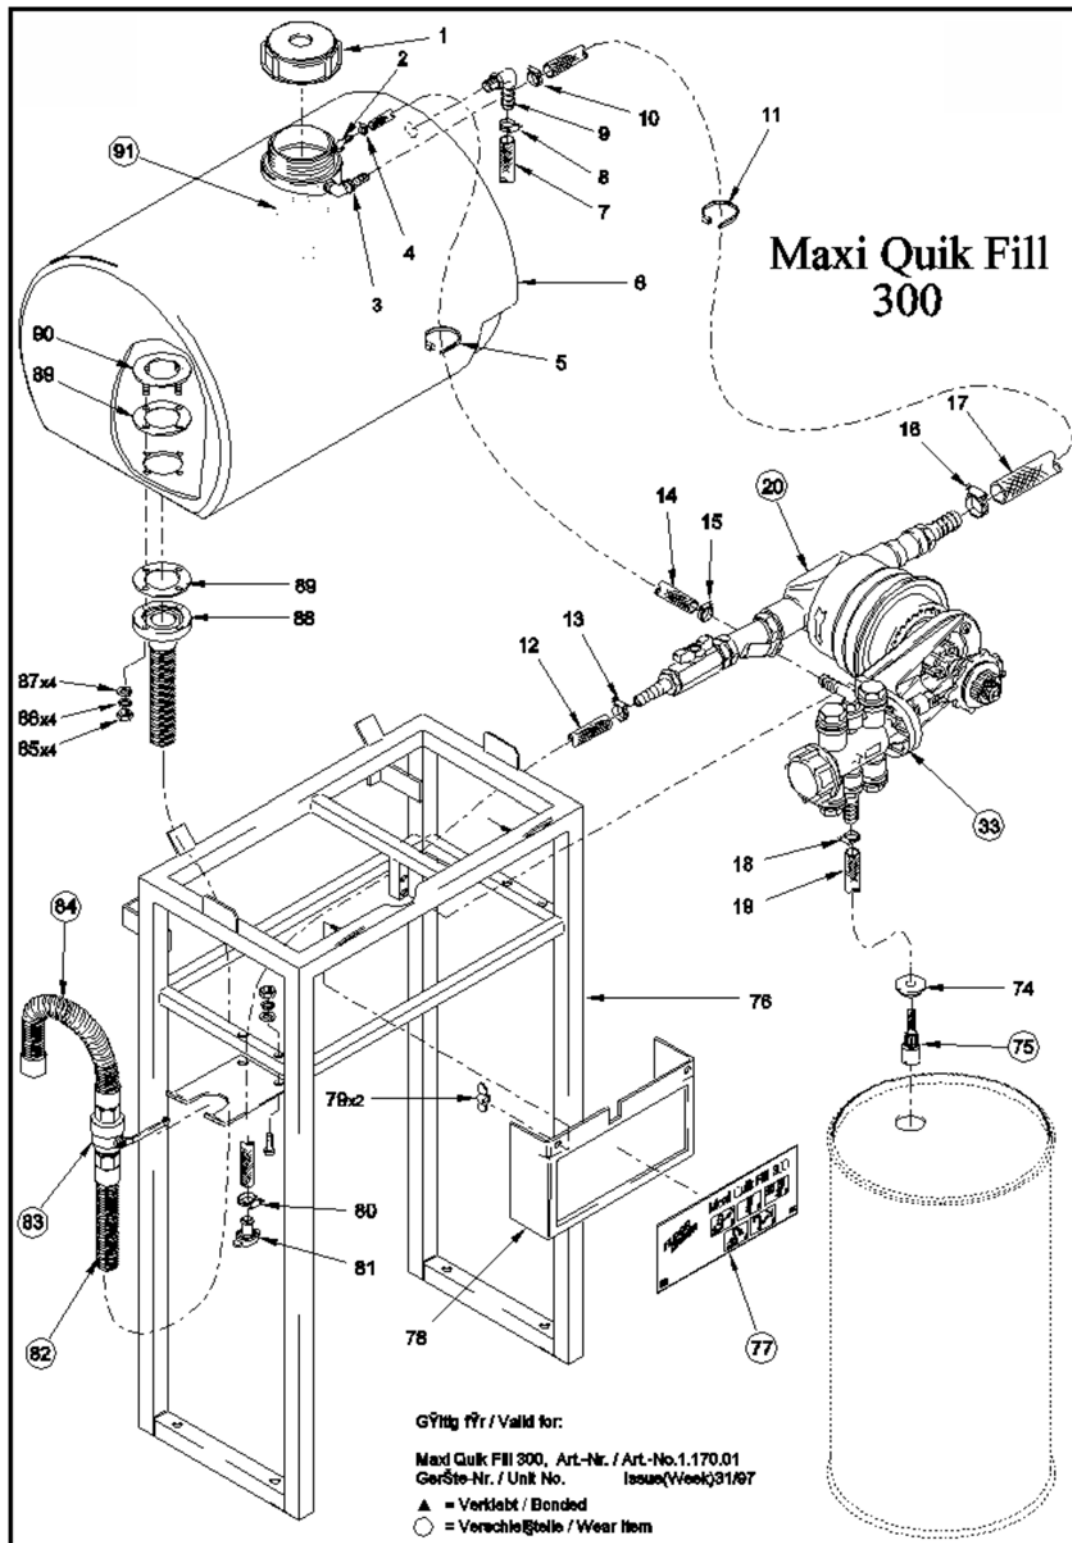

Fig. 7: Exploded view I
1. ➤ Loosen both wing nuts (☞ *Chapter 11 'Drawings / Spare Parts / Accessories' on page 38*, Fig. 7, pos. 79) and remove cover plate (Fig. 7, pos. 78).
2. ➤ Loosen hose clamp (Fig. 7, pos. 18) and disconnect product feed line (Fig. 7, pos. 19) from nipple (Fig. 8, pos. 43).
3. ➤ Loosen hose clamp (Fig. 7, pos. 15) and disconnect product feed line (Fig. 7, pos. 14) from nipple (Fig. 8, pos. 60).
2. ➤ Loosen wing nuts (Fig. 7, pos. 79) and remove cover plate (Fig. 7, pos. 78).
6. ➤ Loosen hose clamps (☞ *Chapter 11 'Drawings / Spare Parts / Accessories' on page 38*, Fig. 7, pos. 13 and pos. 16) and disconnect hoses (Fig. 7, pos. 12 and pos. 17) from water motor.
2. ➤ Remove tank filler cap (Fig. 7, pos. 1).
3. ➤ Drain tank sufficiently until easy access to the valve (Fig. 7, pos. 91) is ensured.
4. ➤ Loosen hose clamp (Fig. 7, pos. 10) and disconnect hose (Fig. 7, pos. 17) from angled piece (Fig. 7, pos. 9).
2. ➤ Remove tank filler cap (Fig. 7, pos. 1) and Drain tank (Fig. 7, pos. 6) completely.
3. ➤ Unscrew the four nuts (Fig. 7, pos. 85) with lock washers (Fig. 7, pos. 86) and washers (Fig. 7, pos. 87) from the threaded bolts of the counter ring (Fig. 7, pos. 90).
4. ➤ Remove dispensing hose flange (Fig. 7, pos. 88) including seal ring (Fig. 7, pos. 89).
5. ➤ Install new dispensing hose (Fig. 7, pos. 83) analogously in reverse order.